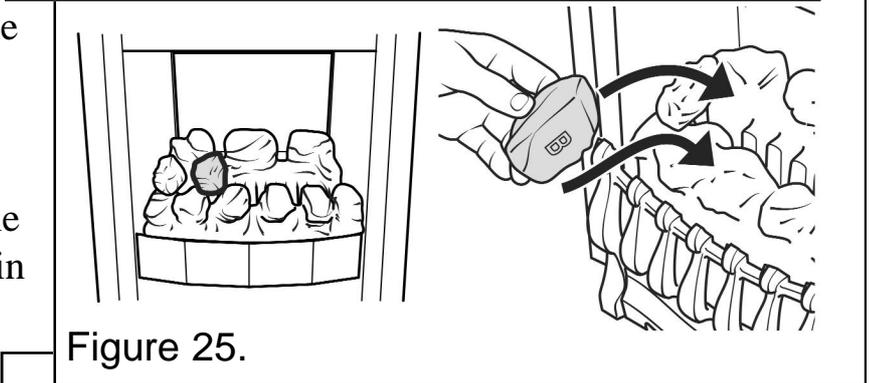

Figure 25.
4. Place a type “B” coal between the front and rear base coals as shown in figure 25. The letter “B” should be upright.